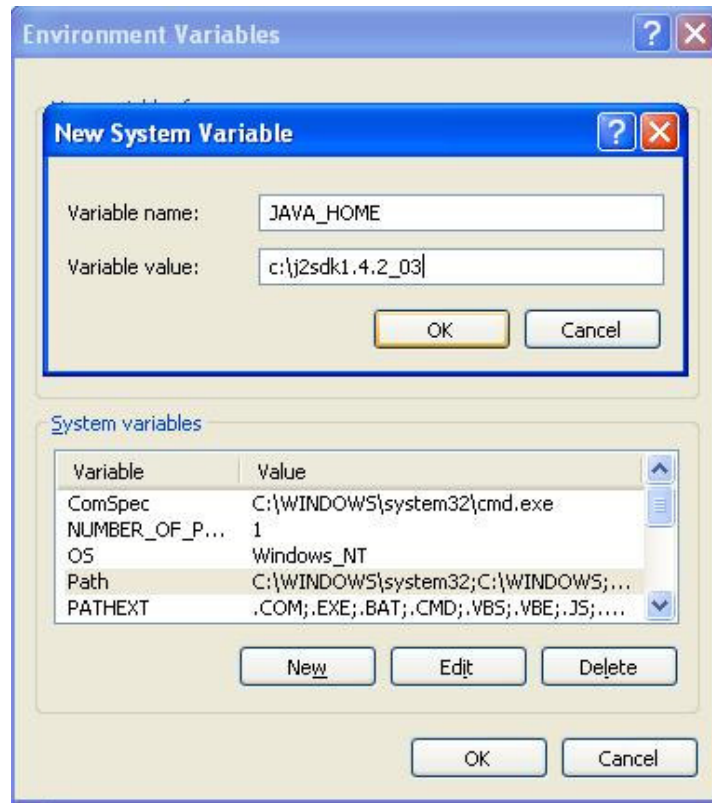

Figure 3-16. EMS server environment-5
5. Click the **Add** button to JAVA_HOME. For instance JAVA_HOME = C:\j2sdk1.4.2_03. as Figure 3-16.